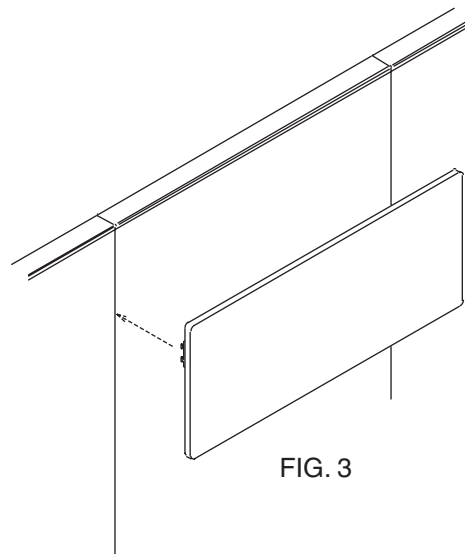

FIG. 3
6. The trimrails on each panel are slotted to accept the tackboard brackets. Decide the height you want your tackboard mounted at, and position it so that the mounting brackets align with the trimrail slots (Figure 3). The easiest method to align the bracket teeth with the slots is to get the teeth on one side in the slot, and then move the tackboard side to side until the teeth on the other bracket align with their slot.